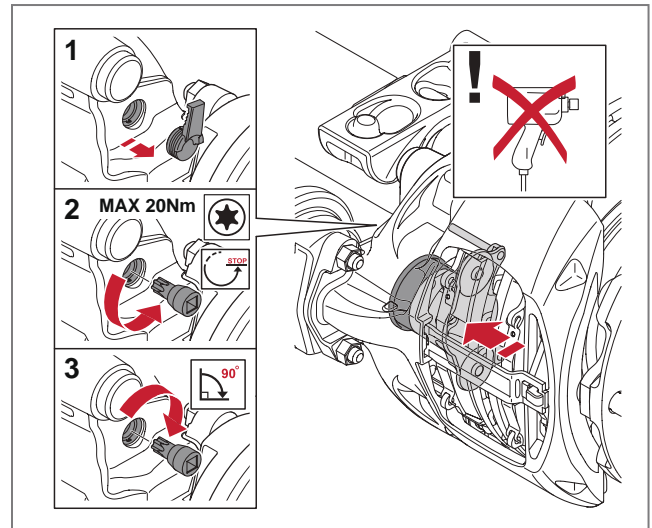

Fig. 37 - Resetting the thrust plate by reset shaft
2. Remove the reset shaft protective plug, see ► Fig. 37.